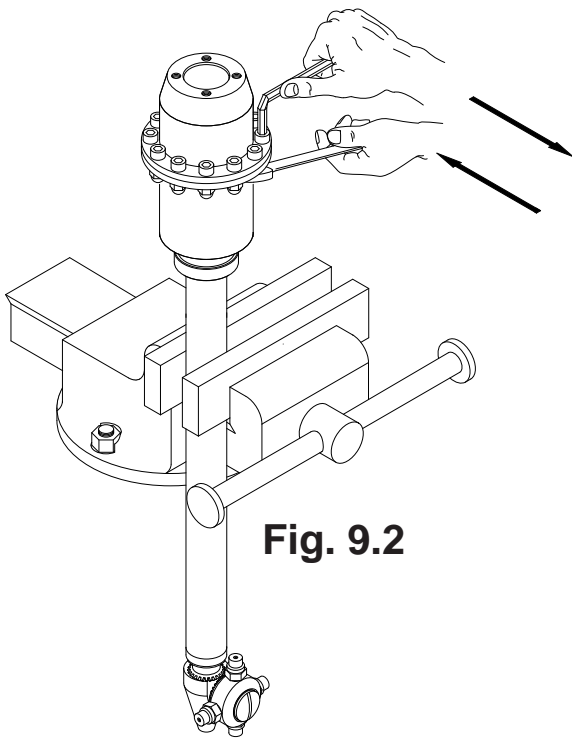

Fig. 9.2
9.2.2) Using a 5-mm hex spanner and a 10-mm ring spanner, unscrew the twelve screws and the twelve nuts, pos. 57 and pos. 58, see fig. 9.2.